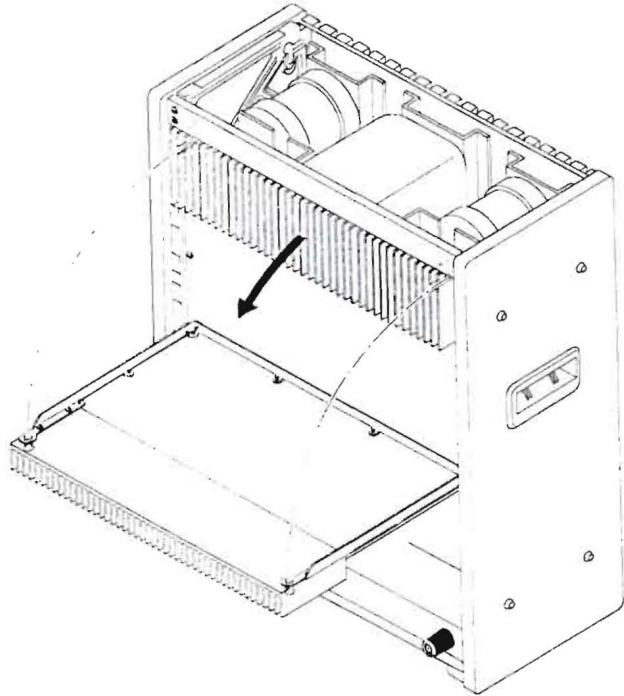

Figure 2-7
1. Turn off the machine. Place the machine in the upright position. See Figure 2-7.